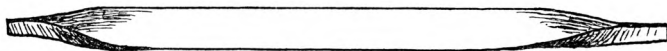

Fig. 38
17. Paste the strip, the best way of doing this is to brush paste on to a paring stone or sheet of glass, place the mending strip on the paste and press down so that it picks up the paste. Lift the strip off and pinch each end together with the pasted side inwards, fig. 38. This prevents the strip from curling and so makes it easier to handle.